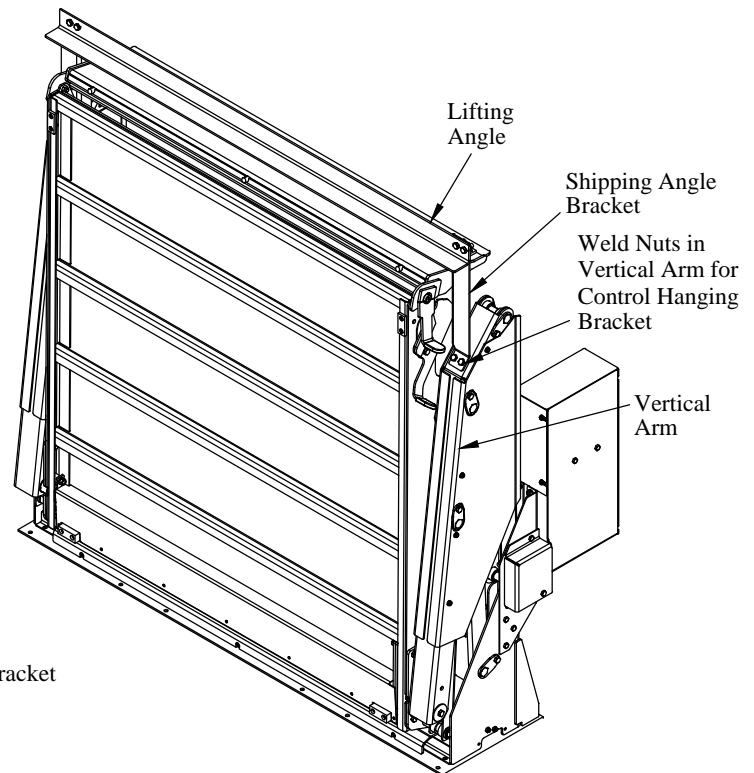

Figure 20: Lifting angle and vertical arm.
5. **Unbolt** and **Remove** the lifting angle and brackets (Figure 20). There are weld nuts inside the vertical arm.